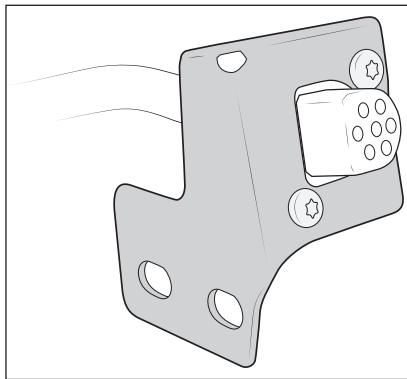

Figure 34
11. Attach winch remote mounting bracket to top of connector using M5 bolts from winch kit and nuts from AEV hardware kit. To prevent damage to plastic connector, do not overtighten (fig. 34).